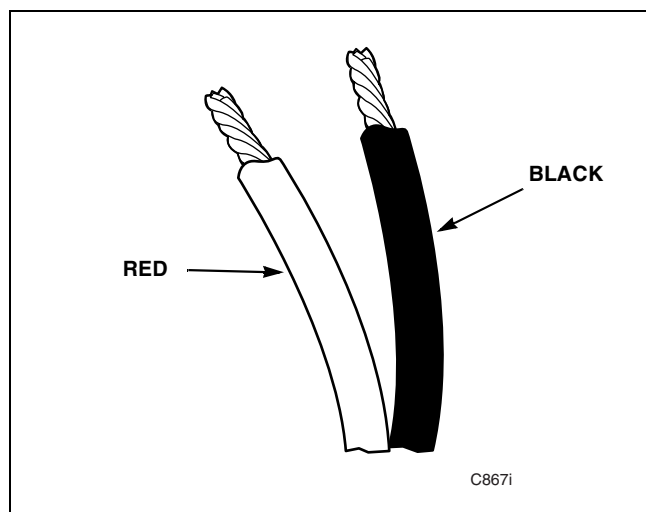

Figure 5
2. Carefully strip 1/4" of the insulation from the black and red twisted pair wire. If too little insulation is stripped, and insulation is inside the connector, the network will not communicate. If too much is stripped, the wires will short. Refer to *Figure 5*.
3. Carefully strip 1/4" of the insulation from the black and red twisted pair wire. If too little insulation is stripped, and insulation is inside the connector, the network will not communicate. If too much is stripped, the wires will short. Refer to *Figure 5*.
6. Carefully strip 1/4" of the insulation from the black and red twisted pair wire. If too little insulation is stripped, and insulation is inside the connector, the network will not communicate. If too much is stripped, the wires will short. Refer to *Figure 5*.
- Carefully strip 1/4" of the insulation from the black and red twisted pair wire. If too little insulation is stripped, and insulation is inside the connector, the network will not communicate. If too much is stripped, the wires will short. Refer to *Figure 5*.